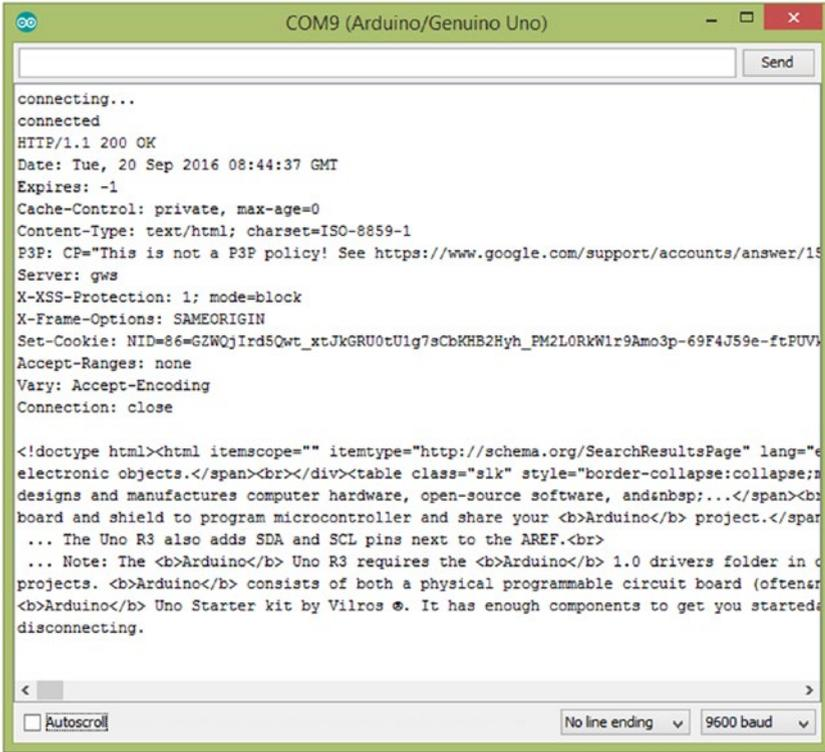

Figure 2-26. Output from the Serial Monitor
7. Now open the **Serial Monitor** by choosing Tools ► Serial Monitor (Ctrl+Shift+M). You'll see the following output on the Serial Monitor. Note that the section between <html></html> contains HTML output from google.com for the search query arduino (Figure 2-26).